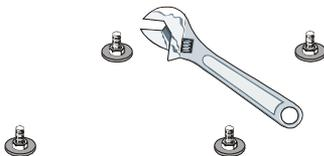

Figure 8. Tighten nuts with wrench.
8. Refer to Figures 8 and 9. Align the four holes in the base of the dispensing mechanism with the four holes in the turntable. Secure the dispensing mechanism to the turntable with the four, #6-32 x 5/16 screws supplied.
Figures 8 and 9. Location of dispenser/turntable mounting holes.